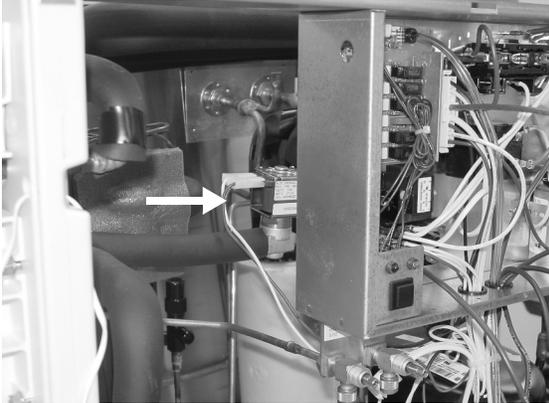
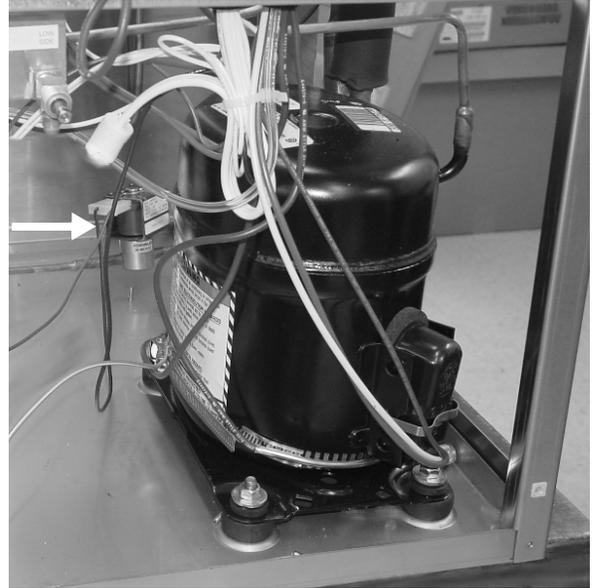

Figure 12.
Figure 13.
9. Disconnect the plug from the Hot Gas Solenoid Valve (Figure 12) and the Liquid Line Solenoid (Figure 13).